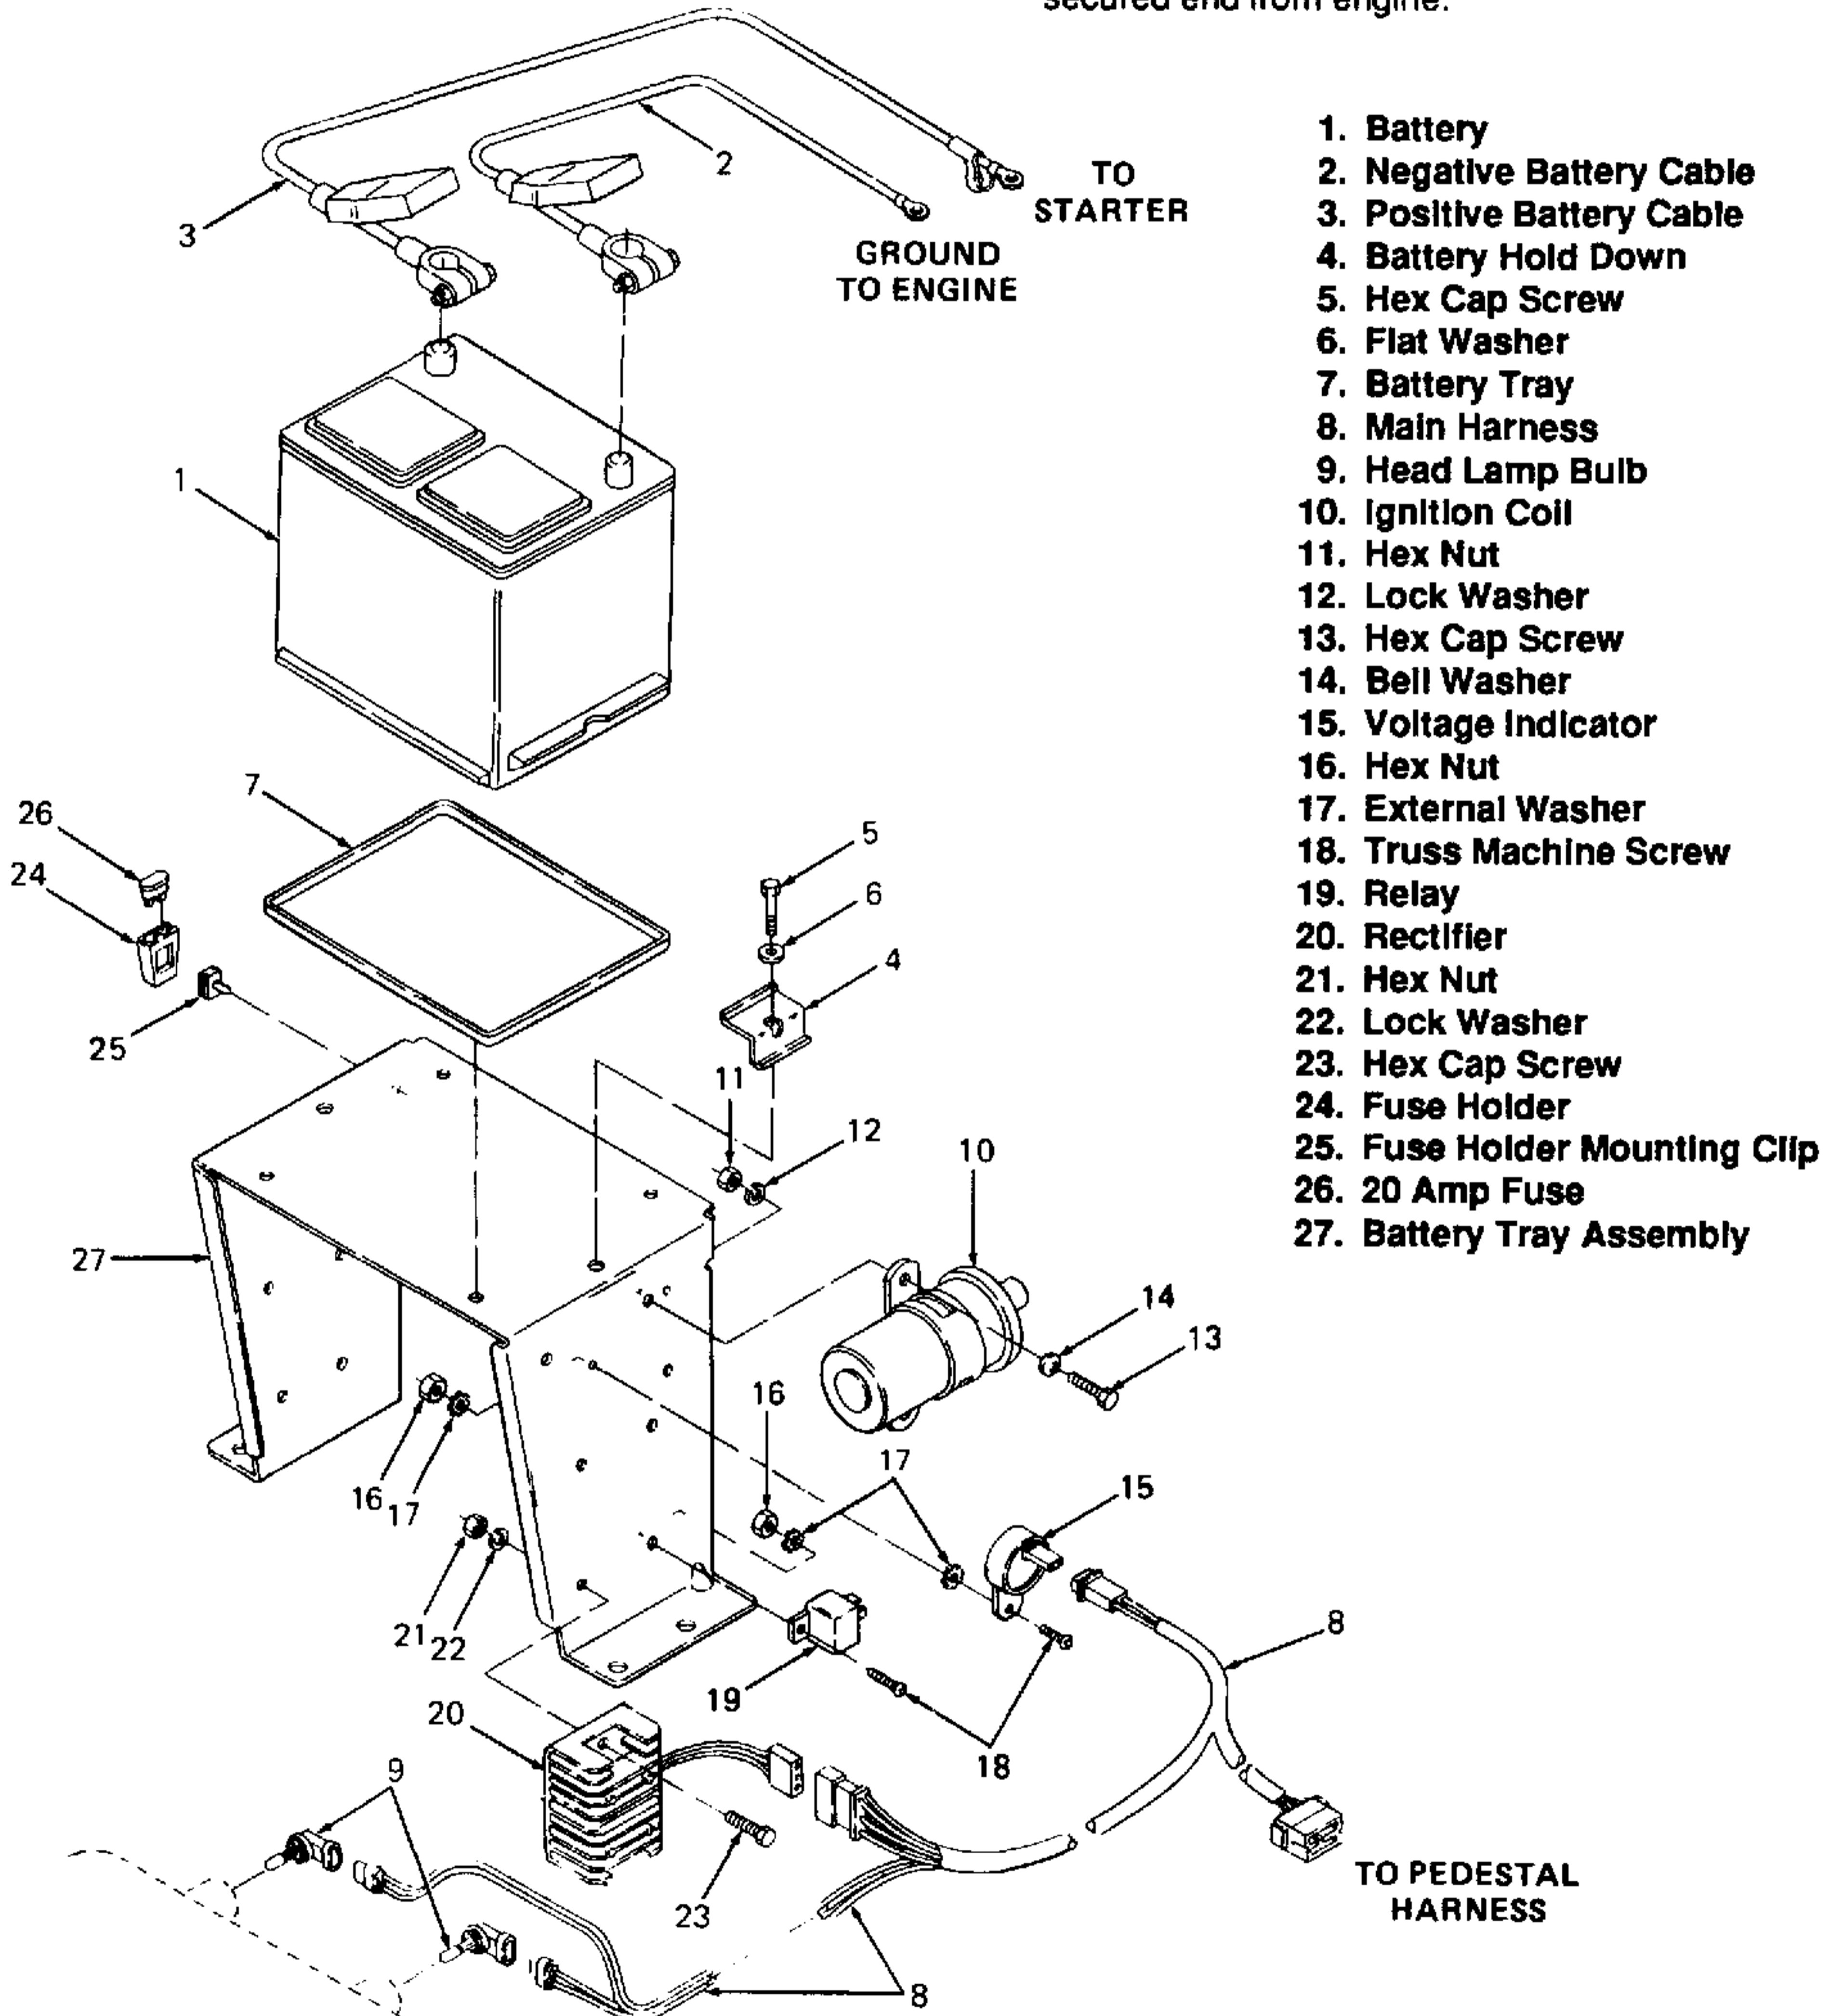

Figure 5-13. Battery and Electrical Components (Model 2182).
2. Remove battery (1, Figure 5-13) as follows:
- a. Disconnect negative battery cable (2) from battery (1) first, then disconnect positive battery cable (3) from battery.
- b. Remove battery hold down (4) by removing hex cap screw (5) and flat washer (6).
3. Remove negative battery cable (2) by removing secured end from engine.